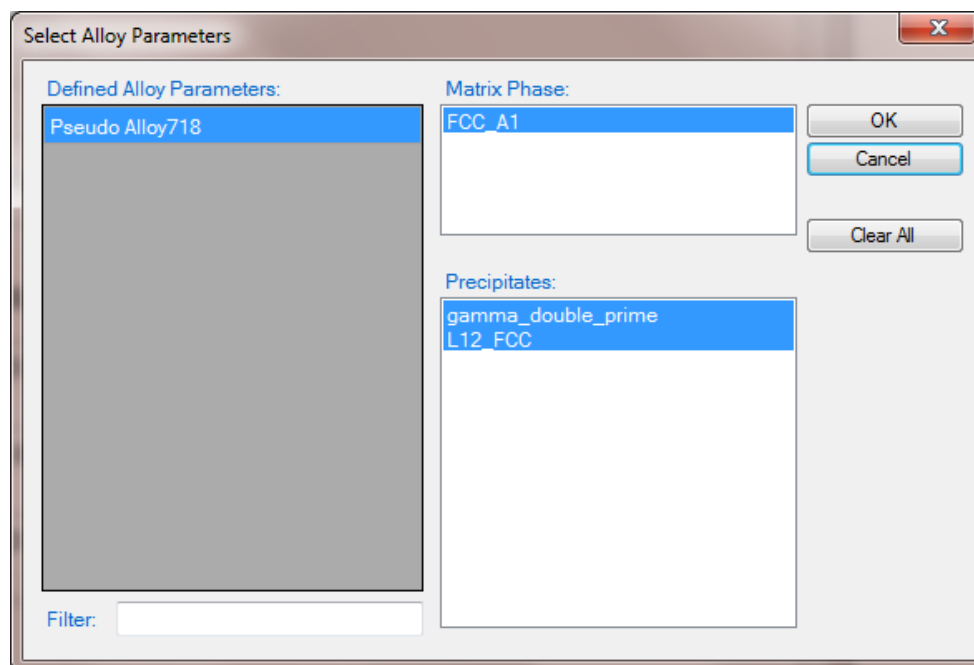

Figure 3.3.1: Pop-out window when loading the Ni-2.4Al-3.8Nb.kdb
- Click on PanPrecipitation on the menu bar and select Load KDB, then select the Ni-2.4Al-3.8Nb.kdb, the pop-out window is shown in Figure 3.3.1 which include the alloy name, the matrix phase and the precipitates. Two precipitates are defined in this case;